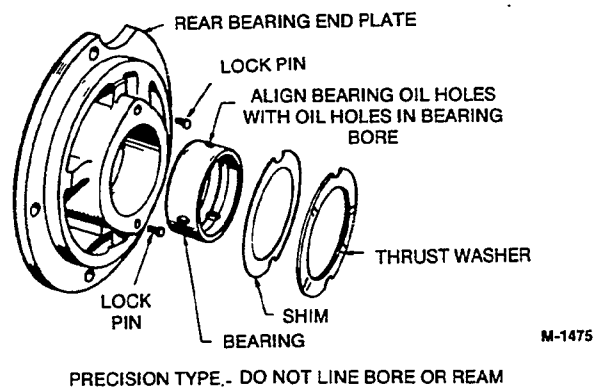

FIGURE 9-32. REAR BEARING
2. Use oil or gear lubricant to hold the front thrust washer in place against the engine block (see Figure 9-32). The flat side of the thrust washer goes against the block.
5. Use oil or gear lubricant to hold the shim(s) and rear thrust washer in position on the rear bearing plate (see Figure 9-32). The shim goes against the bearing plate, and the flat surface of the thrust washer goes against the shim.
**Rear Bearing:** Use the combination main and cam bearing driver and a press to install the rear main bearing. Push the bearing into the bearing plate from the inner side (see Figure 9-32) to the depth allowed by the flange on the driver.